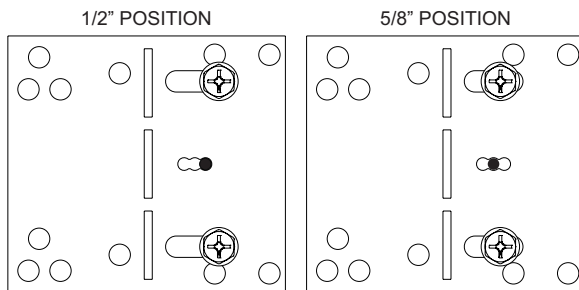

Figure 22
2. If necessary, the positions of the side nailing flanges can be adjusted by loosening (but do not remove) the top and bottom screws, anchoring the bracket in place using a center screw from the hardware pack, and re-tightening the top and bottom screws. **See Figure 22.**